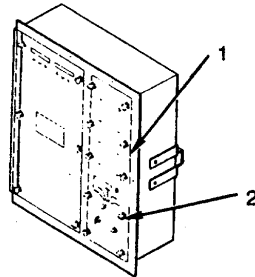

Figure 4-18. Right Electric Plate
- a. Close Right Electric Plate. Close panel (1) and tighten ten captive fasteners (2) (see Figure 4-18).